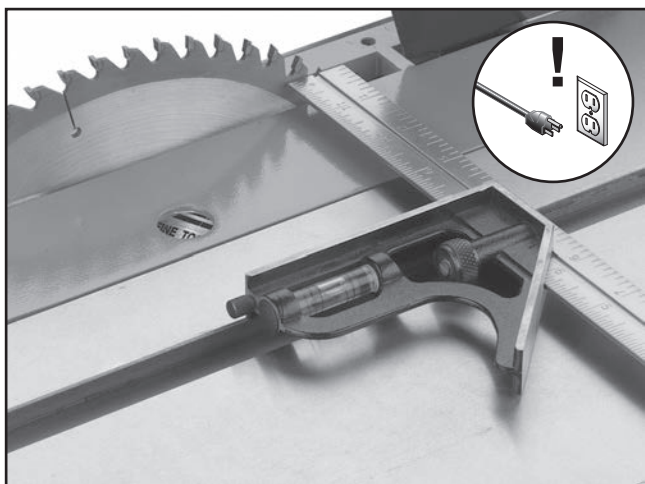

Figure 84. Example of adjusting blade to miter slot.
2. Use an adjustable square to measure the distance from the miter slot to a carbide tip on the blade, as shown in **Figure 84**. Make sure that the face of the adjustable square is even along the miter slot.